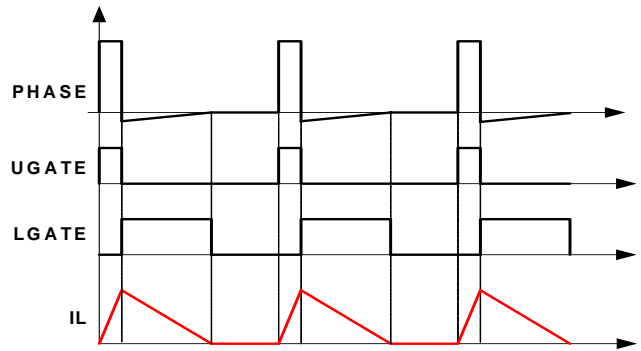

FIGURE 10. DIODE EMULATION
The ISL6267 can operate in diode emulation (DE) mode to improve light-load efficiency. In DE mode, the low-side MOSFET conducts when the current is flowing from source to drain and does not allow reverse current, thus emulating a diode. As Figure 10 shows, when LGATE is on, the low-side MOSFET carries current, creating negative voltage on the phase node due to the voltage drop across the ON-resistance. The ISL6267 monitors the current by monitoring the phase node voltage. It turns off LGATE when the phase node voltage reaches zero to prevent the inductor current from reversing the direction and creating unnecessary power loss.
If the load current is light enough, as Figure 10 shows, the inductor current reaches and stays at zero before the next phase node pulse, and the regulator is in discontinuous conduction mode (DCM). If the load current is heavy enough, the inductor current will never reach 0A, and the regulator is in CCM, although the controller is in DE mode.